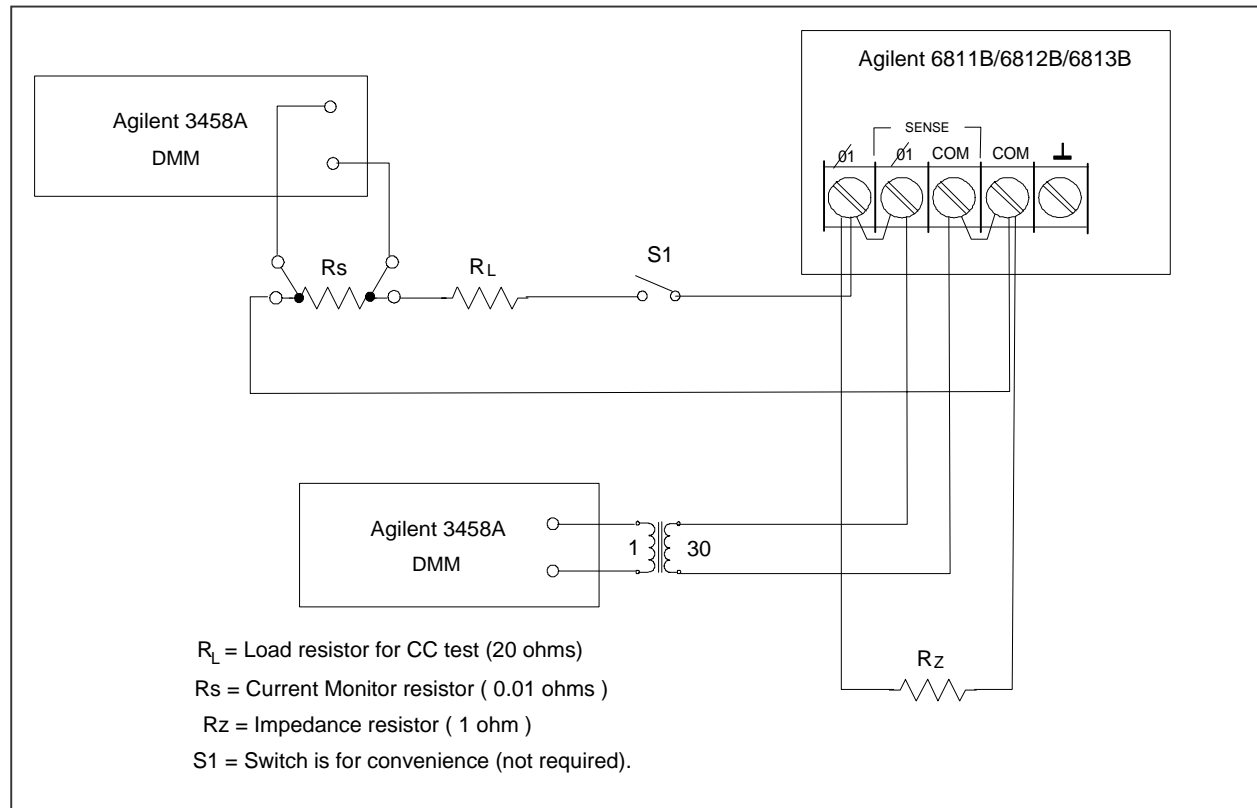

Figure B-1. Verification & Calibration Test Setup
Figure B-1 shows the setup for the tests. Be certain to use load leads of sufficient wire gauge to carry the full output current (see Chapter 2).
1. Make sure the ac source is turned off. Connect the DVM and ratio transformer as shown in the test setup in Figure B-1.
1. Turn off the ac source and connect the DVM, the 20 ohm load resistor and current shunt as shown in Figure B-1 with S1 closed. Connect the DVM across the current shunt.
Table B-1 lists the equipment required for calibration. Figure B-1 shows the test setup.